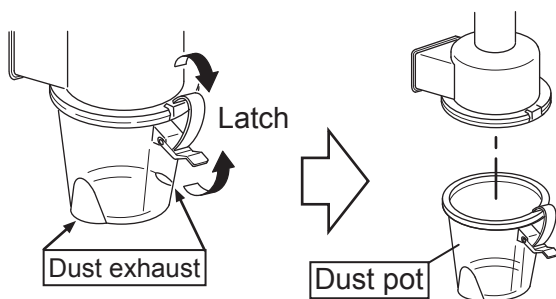

Figure 25. Unlatching Dust Pot
1. Release locking latch (Figure 25) on dust pot and remove dust pot from air cleaner body.